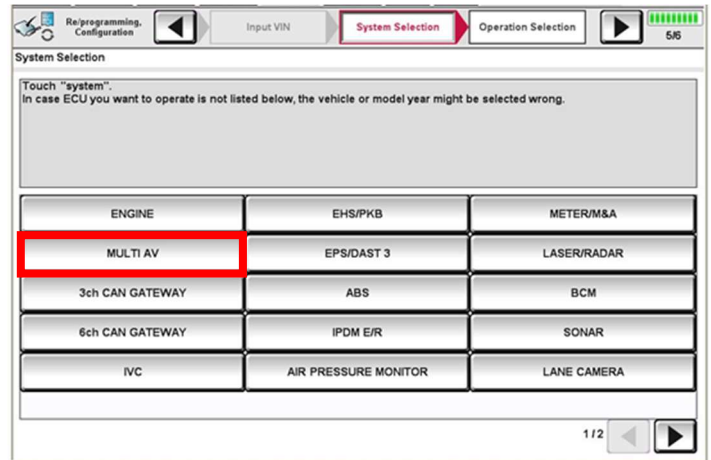

Figure 20
22. Locate and select **MULTI AV** from the systems list. (Figure 20)